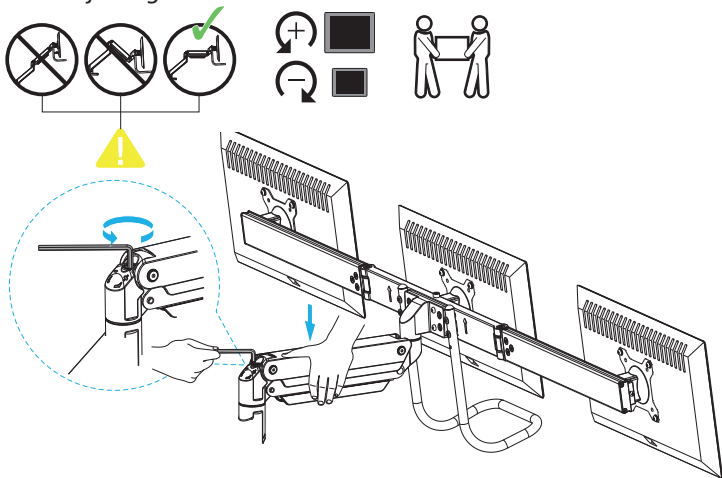

Figure 20
1. Locate the **Tension Adjustment Screw** on the **Spring Arm**. (Figure 20)